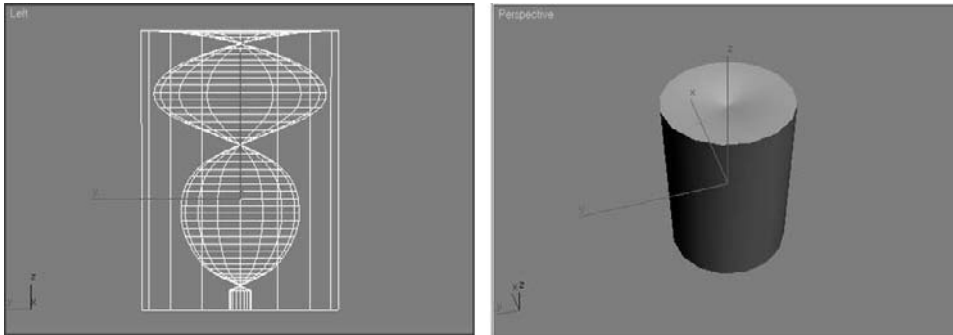

Figure 4.70
- The profile line is ready to turn into a 3D object. This is where the modifiers are used. Get out of sub-object mode for your line. Choose `Modifiers` → `Patch/Spline Editing` → `Lathe`. (You could also go to the Modifier List and choose **Lathe** from the alphabetical list of modifiers.) When you first put the Lathe modifier on your spline, it won't look anything like the knob (see Figure 4.70)—but don't panic! You need to futz with the parameters to get it right (Figure 4.71). Right now the object is turned inside out.